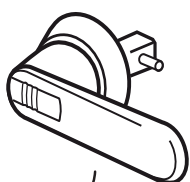

Fig. 1
1. Supply power to the unit by turning the master switch to the ON position; see (fig1.) The display will come on a few seconds after voltage has been supplied; check that the operating status is on OFF.(OFF BY KEY B on lower side of the display).